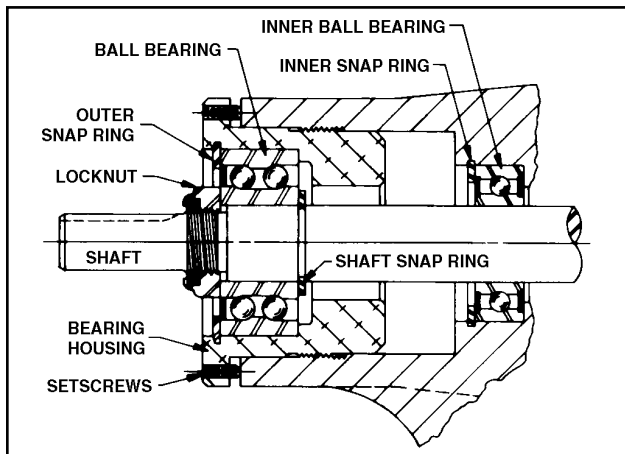
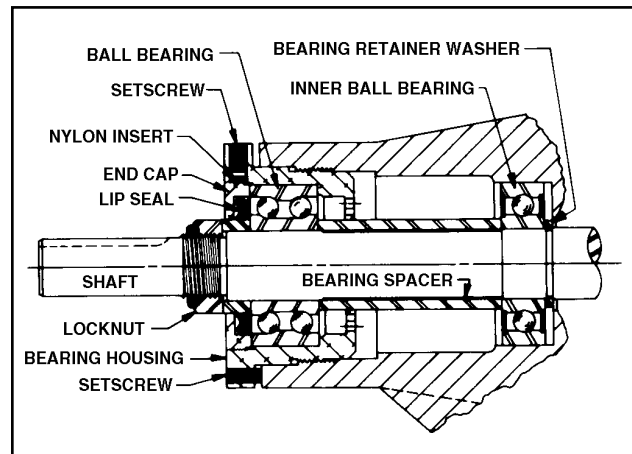

Figure 26 - Thrust-Bearing assembly (GG, HJ, HL)
Figure 27 - Thrust-Bearing assembly (AS, AK, AL)
5. Insert a brass bar or piece of hardwood in the port opening and between rotor teeth to keep shaft from turning. Turn the locknut counterclockwise and remove locknut. See Figure 26 or 27.
6. Loosen two setscrews in face of bearing housing and turn thrust bearing assembly counterclockwise and remove from casing. See Figure 26 or 27.
7. **GG, HJ, HL:** Remove snap ring from shaft. See Figure 26. **AS, AK, AL:** Remove bearing spacer from shaft. See Figure 27.
10. **AS, AK, AL:** Remove bearing retainer washer. The washer may have stayed with rotor and shaft when removed or is against ball bearing. See Figure 27.
GG, HJ, HL: Remove outer snap ring from bearing housing and remove ball bearing. See Figure 26.
AS, AK, AL: Loosen two set screws in flange outside diameter. Rotate end cap and lip seal counterclockwise and remove. Remove ball bearing. See Figure 27.
12. **GG, HJ, HL:** Install shaft snap ring in groove in the shaft. See Figure 26.
AS, AK, AL: Install bearing spacer over shaft and against single row ball bearing. See Figure 27.
13. Pack lubrication chamber between inner ball bearing and double-row ball bearing in the thrust-bearing assembly approximately one-half full of multipurpose grease, NLGI #2. The thrust-bearing assembly will take the remaining space. See Figure 26 and 27.
GG, HJ, HL: Install ball bearing into bearing housing with shield side toward coupling end of shaft. See Figure 26. Install snap ring into bearing housing to retain ball bearing. This snap ring has a tapered edge to fit tapered groove in bearing housing. The tapered edge is located away from ball bearing.
AS, AK, AL: Install ball bearing into bearing housing. Install lip seal in bearing housing end cap. The lip should face towards end of shaft. Put bearing spacer collar in lip seal and install in bearing housing and tighten setscrews securely. See Figure 27.
See Figures 26 and 27.